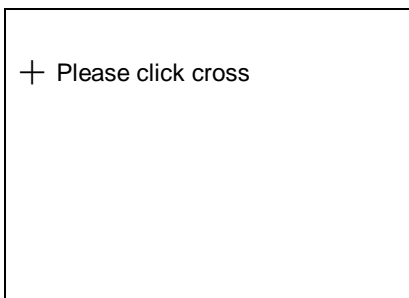

Fig 2.8
- ① Select **Settings** from the main menu, and then select **TouchSet**, the screen should be displayed as shown in Fig 2.8:
- ① Turn off Star Auto Scanner first.
- ② Wait for more than 5 seconds and then turn on Star Auto Scanner.
- ③ Press the company logo “AUTOBOSS” with the touch pen for several seconds until the Fig. 2.8 is displayed, then just click on the center of the cross following the screen instruction.